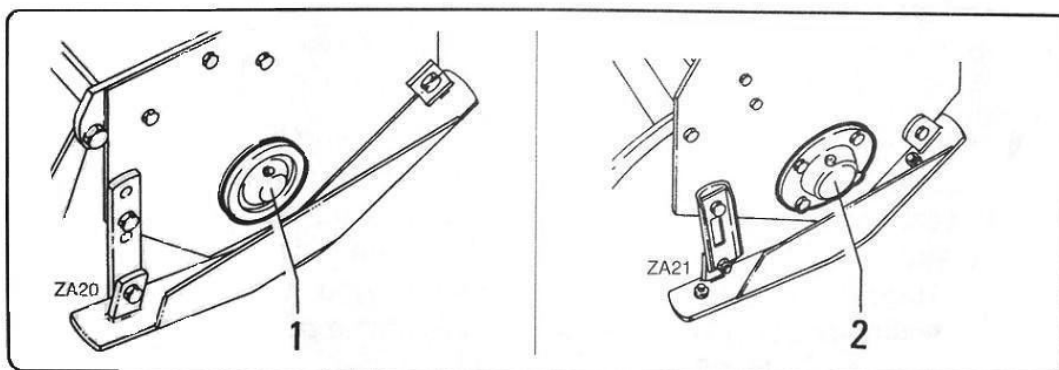

fig. 7.4.1
- Grease the right support “1” fig. 7.4.1 of the rotor or make sure that there is oil in the right support “2” fig. 7.4.1 (in versions with support in an oil bath).